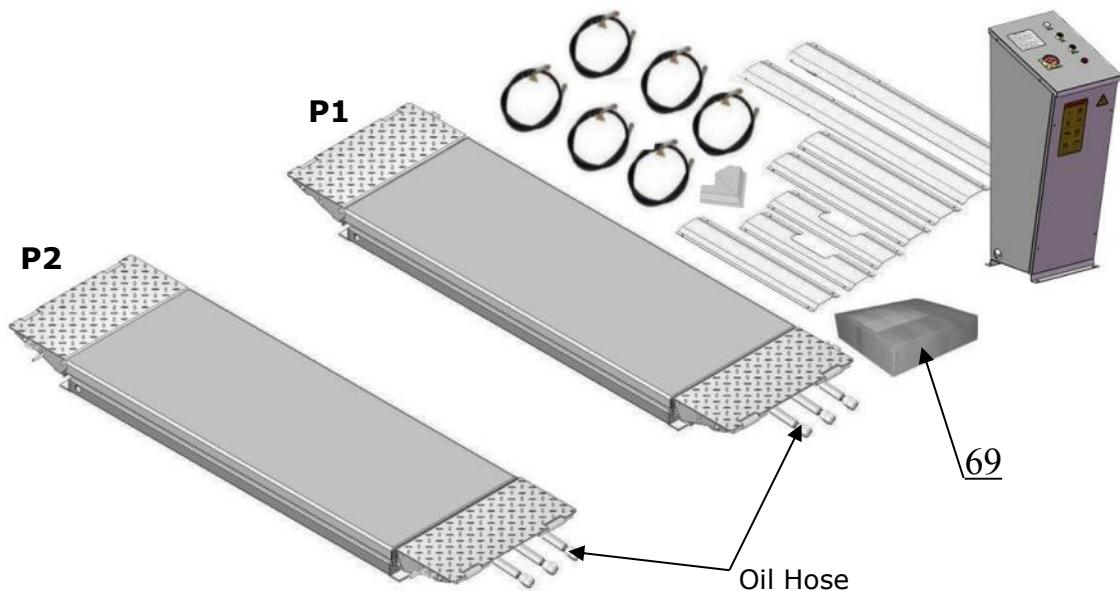

Fig. 9
2. Move aside all parts to the installation site, open the outer packing and check the parts according to the shipment parts list (**See Fig. 9**).